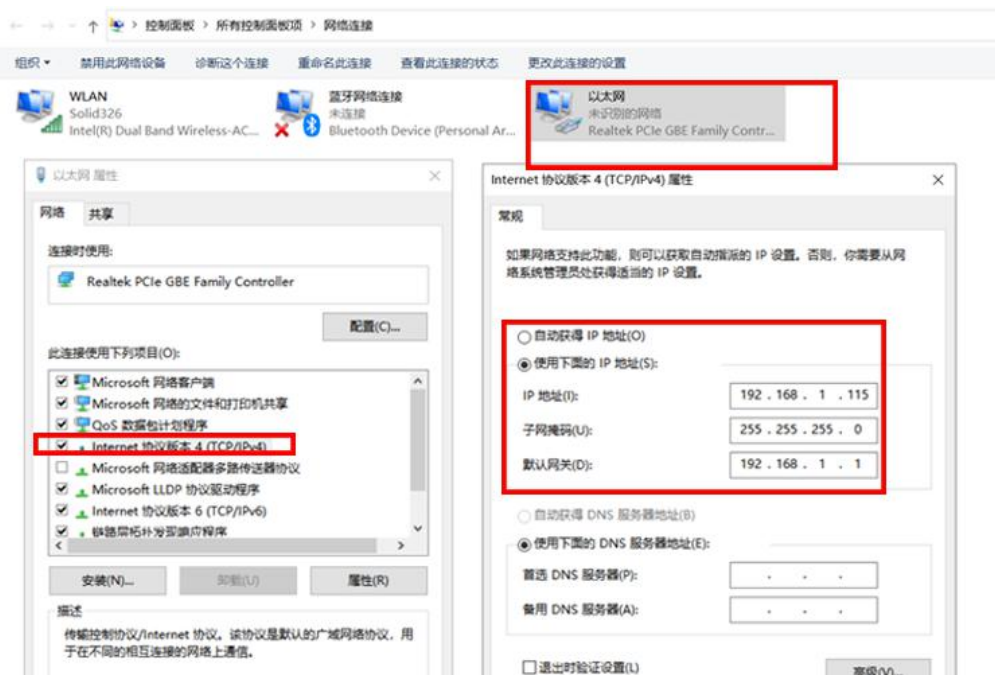

Figure 1
2.2 Please modify the IP of the host (such as computer) to be in the same network segment as the reader, as shown in the following "Figure 1".